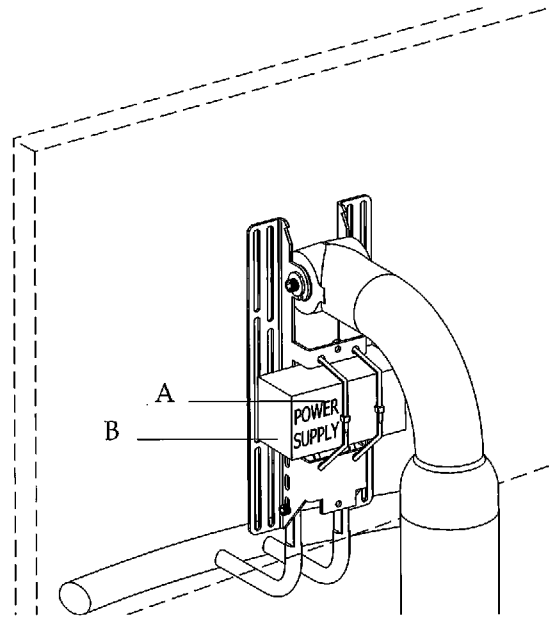

Figure 29. Installing the monitor power supply. (A) cable ties; (B) power supply
5. Attach the monitor power supply to the handle/bracket assembly with cable ties, and connect the monitor cables to the monitor (see Figure 29).